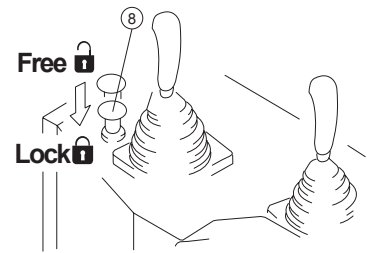

Figure 2-10
Blade control lever lock button (8) (Figure 2-10)